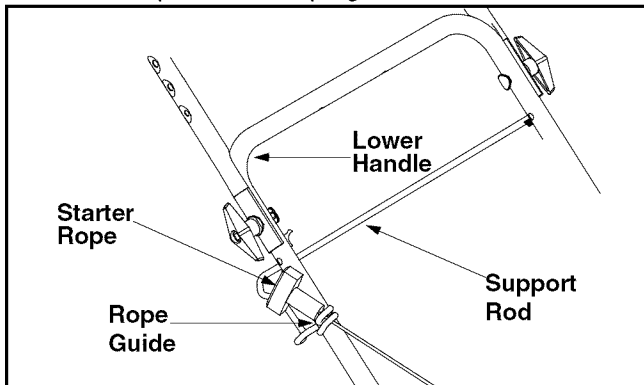

Figure 5
- The rope guide, which is connected to the support rod, is located on the right side of the lower handle. See Figure 5.